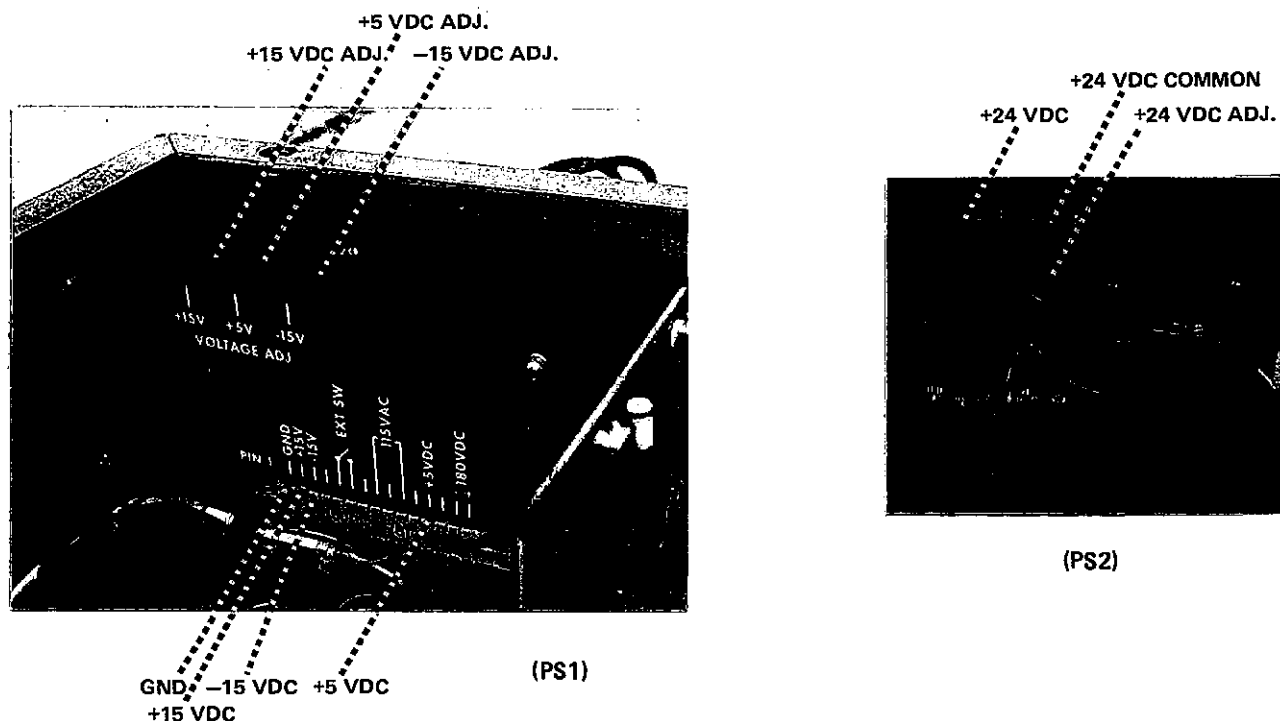
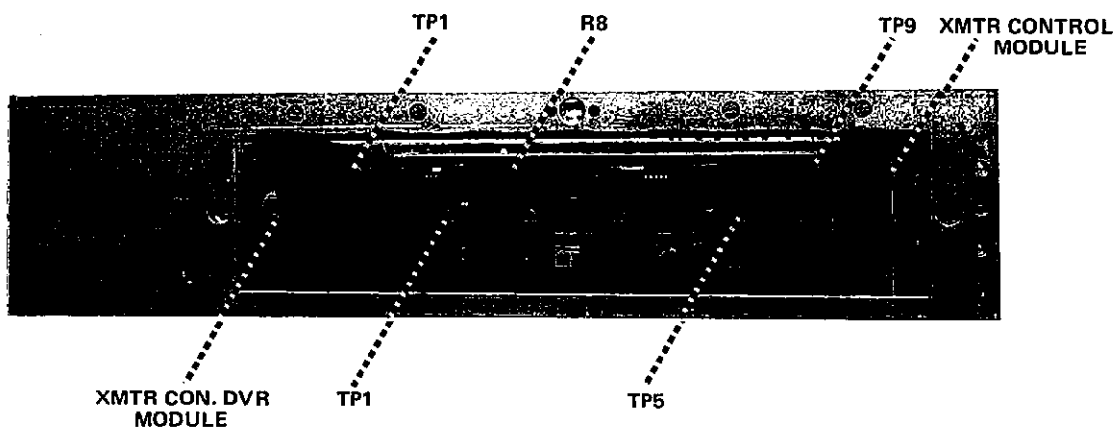

Figure 5.12. Voltage Test Point and Adjustment Locations of the TCC Power Supplies
Figure 5.13. Test Point and Potentiometer Locations of the TCC Modules
5.3.2.1 Transmitter Coupler Control. Figures 5.12 and 5.13a show the location of the voltage test and adjustment points of the power supplies in the TCC. Figure 5.13 shows the locations of the test points of the modules of the TCC. Figure 5.13 also shows the location of a potentiometer (R8) of the Transmitter Control Module. The test point waveforms are TTL level waveforms.